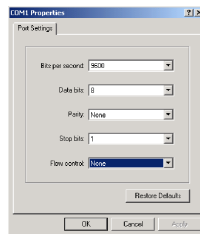

Figure 7. Configure Port Settings
6. Set the serial line to 9600 baud, No parity, 8 data bits, 1 stop bit, and no flow control (see Figure 7).